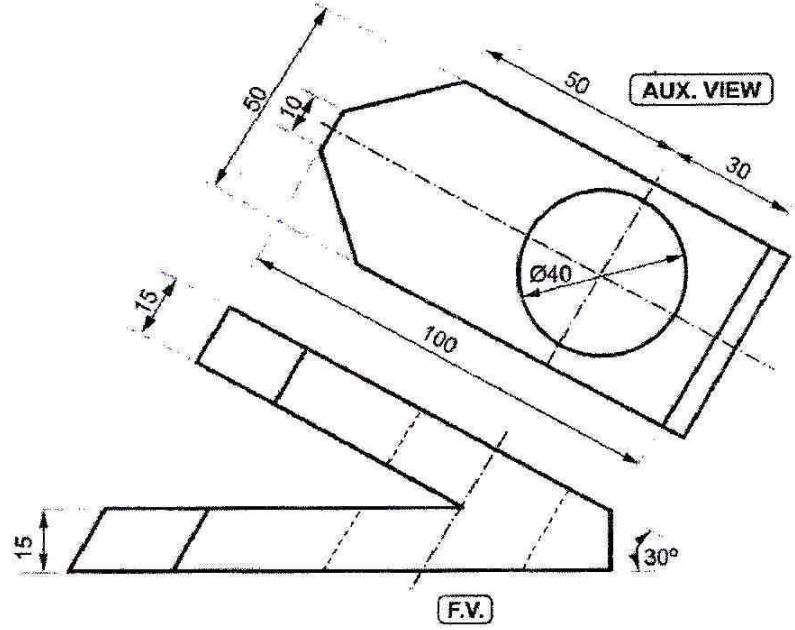

Fig. No. 3
5. Draw the given Front View and auxiliary views and add top view for the object shown in the following Fig No.3. Give all the dimensions.